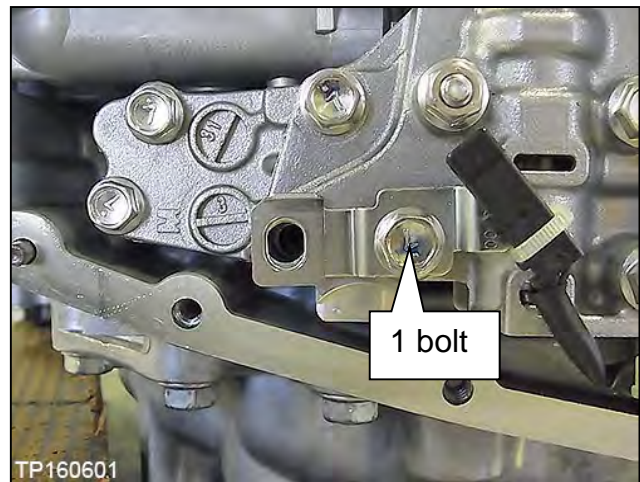

Figure 147
118. Install the CVT fluid temperature sensor bracket to the valve body with one (1) bolt (Figure 147).